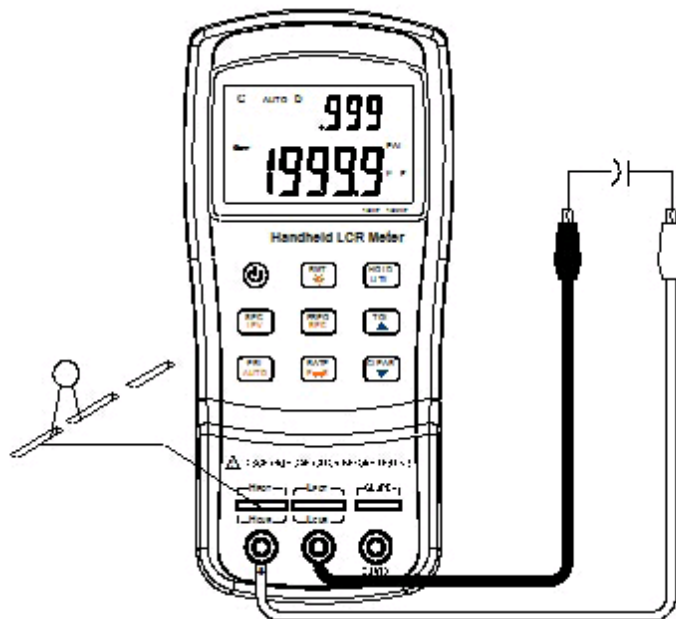

Figure 14- Capacitance Measurement
3. Insert a capacitor into test slots or connect a tested capacitor through a proper test accessory (e.g., banana plug-crocodile clip test leads, test fixture or SMD test tweezers). See figures 14 below. Figure 5 shows the optional 4-terminal test accessories.